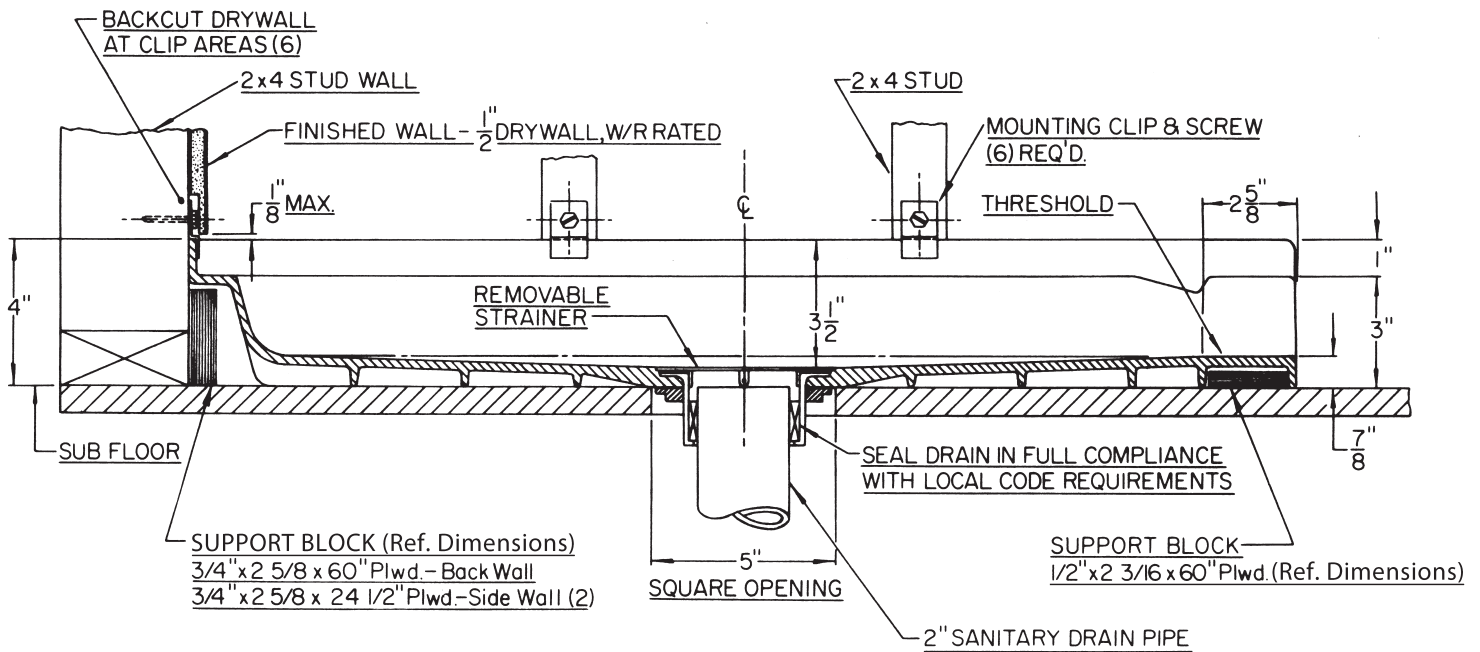

FIG. 1.
HINT: To reduce "creaking or squeaks" we suggest that deck type screws (3" min. length) along with adhesive, be used to secure the sub-floor to the joists-especially under the Shower Floor and Entry Ramp (if so equipped). Fig. 1.
6. You have been furnished with six (6) mounting clips to secure the Shower Floor, do not drill holes in Shower Floor. Position two (2) clips per side and back, resting clip on top edge of tiling flange and securely fastening to stud or bracing with screws provided. See Fig. 1.